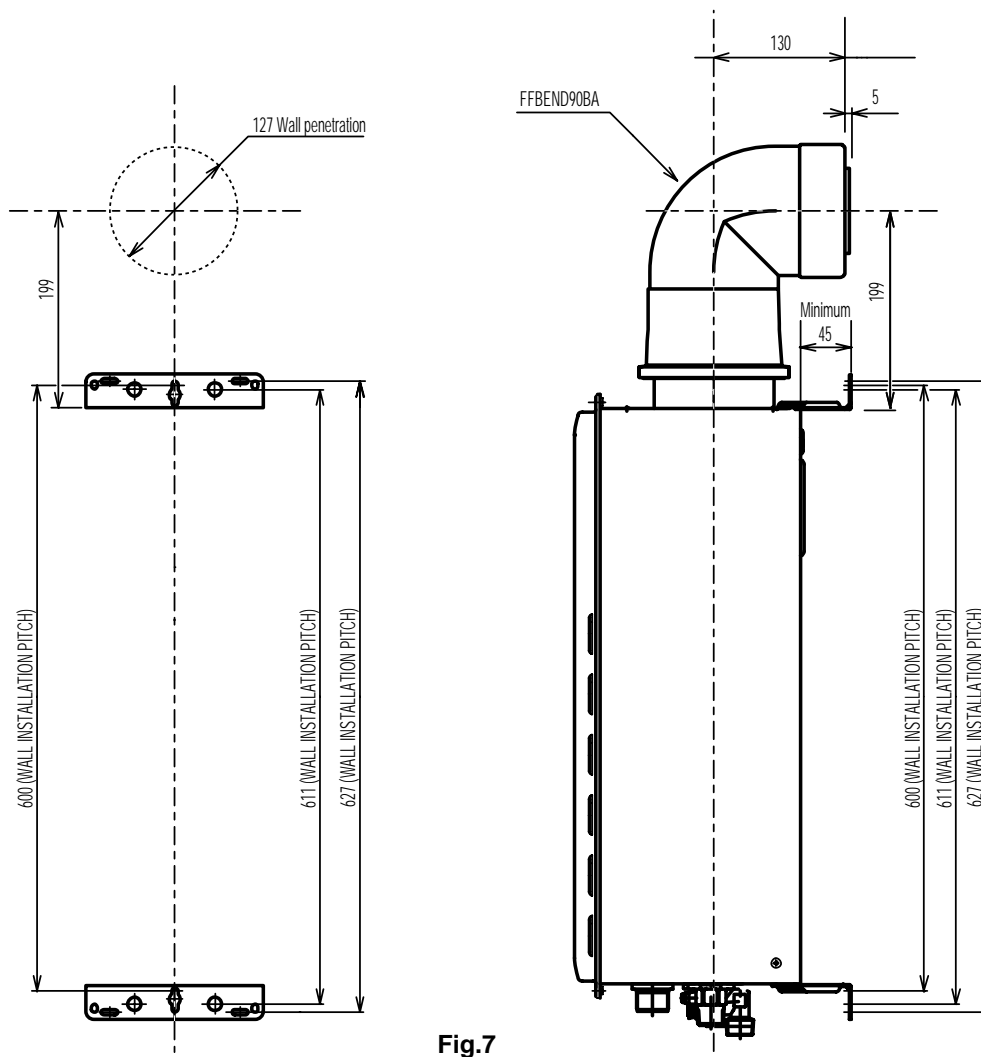
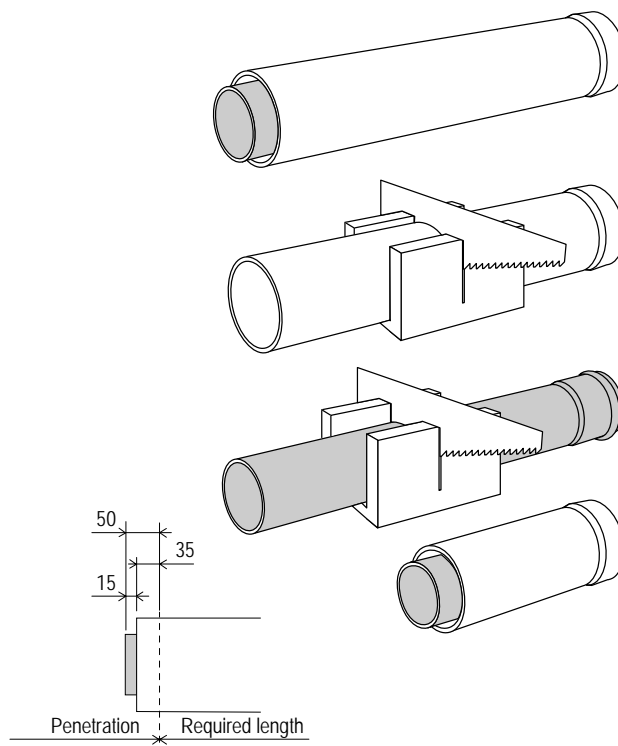

Fig.7
Fig.9
See the section 'Cutting the Flue Components' (**Fig.9**).
2. Dimensions of the REU-V2632FFU/REU-V2632FFUC water heaters for 'direct' flueing are as shown in **(Fig.7)**. Ensure there is enough space to install the Infinity, flue assembly and pipe work. Also ensure that positioning of the flue terminal complies with the requirements of AS5601/AG601 **Clause 5.13.6.2 / Fig.5.3 page 10**.
1. Using the dimensions provided in **(Fig.7)** mark the top Water Heater location hole situated in the centre of the top-mounting bracket and the centre point for the flue terminal hole.
5. Measure the length of the horizontal terminal and cut to length allowing for the outer section of the flue to extend 10mm through the wall. (See the section cutting flue components **(Fig.9)**).
1. Using the dimensions provided in **(Fig.7)**, Install the REU-V2632FFU/REU-V2632FFUC water heater as per the installation instructions located in the pocket on the back of the front heater cover.
2. Using the dimensions shown in **(Fig.7)** calculate the required number and combination of extension pieces and bends to be connected between the Infinity unit and wall terminal. Cut each length as required. (See the section cutting flue components **(Fig.9)**).
1. Using the dimensions provided in **(Fig.7)** Install the REU-V2632FFU/REU-V2632FFUC water heater as per the installation instructions located in the pocket on the back of the front heater cover.
4. Calculate the required number and combination of extension pieces and cut to length as required (See the section cutting flue components **(Fig.9)**)